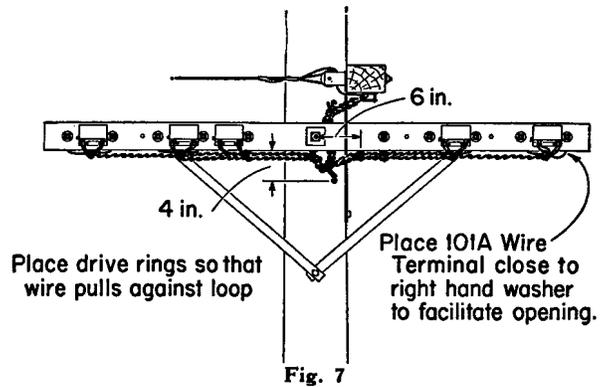

Fig. 7
3.02 101A Wire Terminals may be placed at test points. They should be located as shown in Fig. 7.